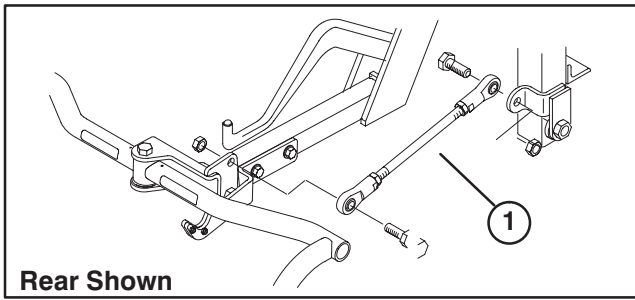

Figure 9
10. Secure front end of short adjusting rod to clevis bracket with a 1/2–13 x 1–1/2" lg. capscrew and locknut (Fig. 9).
11. Secure rear end of short adjusting rod to rod bracket with a 1/2–13 x 1–1/2" lg. capscrew and locknut (Fig. 9).